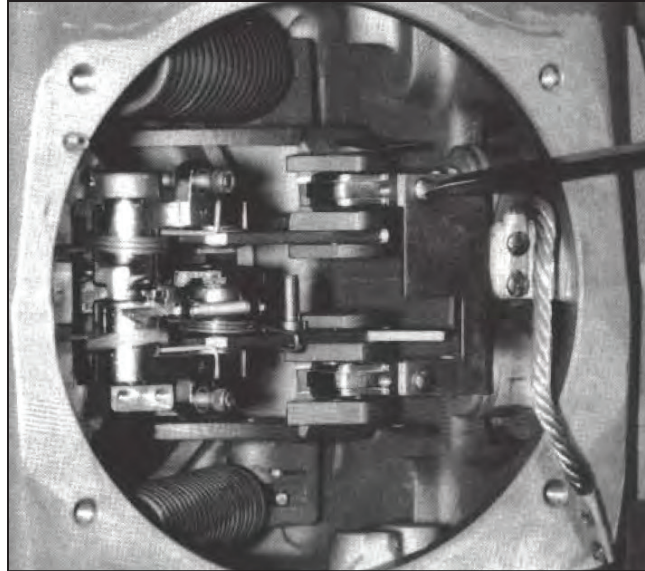

Figure 11. Removing the operating-rod retaining bracket from the new interrupter.
STEP 7. Remove the temporary operating-rod retaining bracket and keep it for use in Step 13 on page 17. See Figure 11 on page 14.
- STEP 13.** Install the temporary operating-rod retaining bracket on the replaced interrupter. This is the reverse of the procedure shown in Figure 11 on page 14. Then, attach the cast aluminum protective cover to the coupling end of the replaced interrupter, to protect the operating rods.